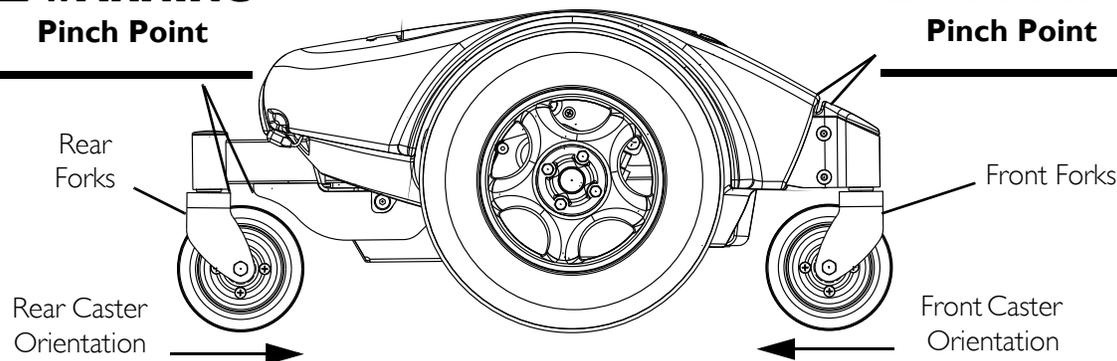

FIGURE 4.2 Lifting/Stairways - orientation of casters and Pinch Points
NOTE: For this procedure, refer to FIGURE 4.2 on page 25.
5. Ensure that the casters are oriented as shown in FIGURE 4.2.
6. Using the rear and front forks as hand hold supports, transfer the wheelchair base to desired location. Refer to FIGURE 4.2.